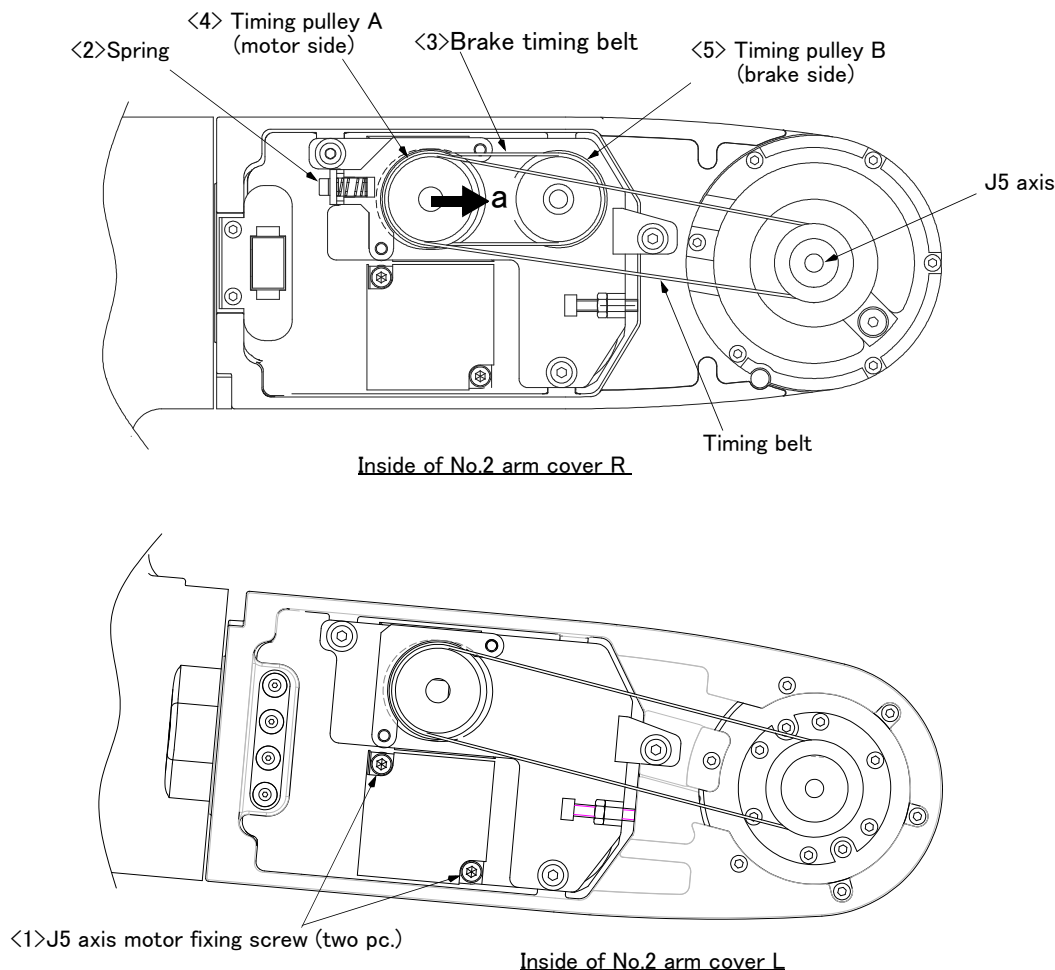

Fig.5-15 : Inspection and replacement of J5 axis brake timing belt (RV-2FR series)
The reference figure at inspection and replacement of the brake timing belt is shown in Fig. 5-15.
- 4) Move motor side timing belt pulley (4) in the direction of the arrow "a" of Fig. 5-15 , and remove the brake timing belt..